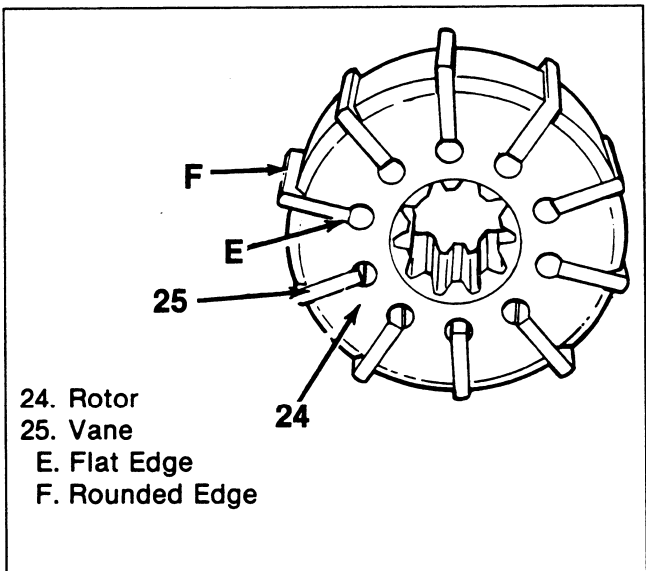

Figure 26. Installing the Vanes
8. Vanes (25) in the rotor (24) with the flat edge (E) facing inward (figure 26).
9. Vanes (25) and rotor (24) into the cam ring. Any stamped marks on the cam ring or rotor face the